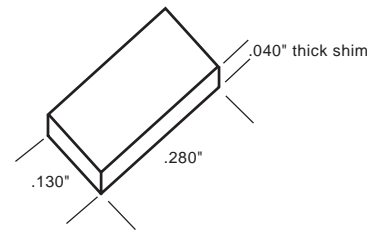

Fig. 1
4. Make a small shim from .040" thick styrene .280" x .130". See Fig. 1.